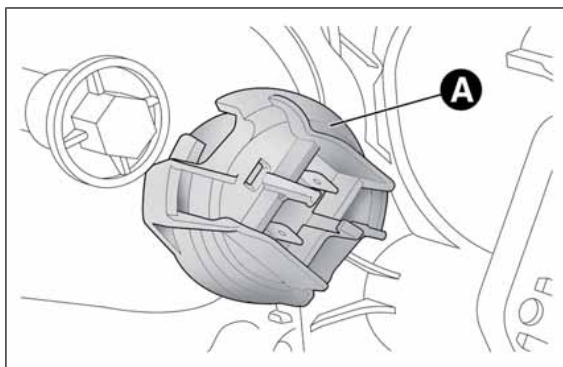

fig. 134
- remove cover A fig. 134 protecting the bulb;